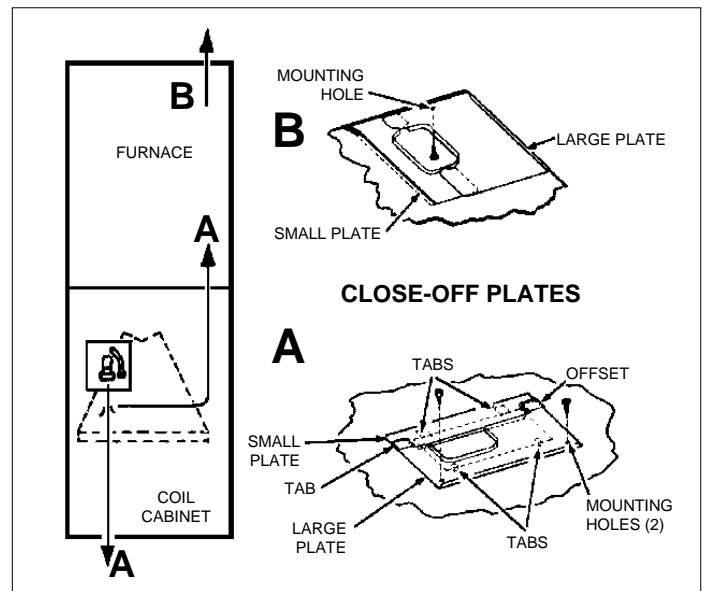

Figure 4. Refrigerant Line Routing Alternatives and Close-Off-Plate Locations
2. Remove the appropriate refrigerant line knockouts. See Figure 4 for knockout locations.